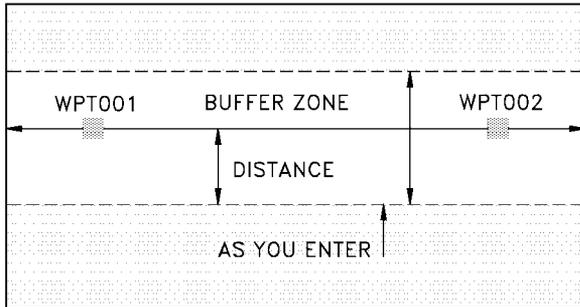

Figure 4-3 Buffer Zone Description.
4.3.6.9 Figure 4-3 shows a representation of a buffer zone. After entering a distance to define the borders of the buffer zone and enabling the buffer alert, the PLGR alerts the user of entry into the buffer zone (shown in white).